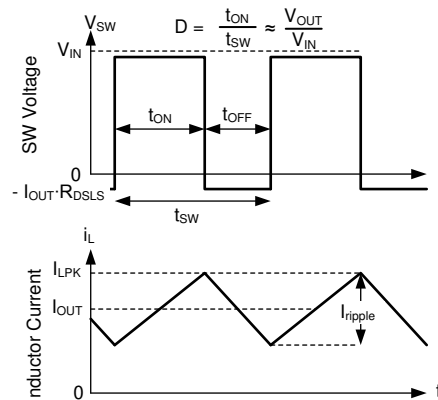

Figure 7-20. SW Voltage and Inductor Current Waveforms in Continuous Conduction Mode (CCM)
The following operating description of the LM614xxT-Q1 refers to Section 7.2 and the waveforms in Figure 7-20. Both supply a regulated output voltage by turning on the internal high-side (HS) and low-side (LS) NMOS switches with varying duty cycle (D). During the HS switch on-time, the SW terminal voltage, V_{SW} , swings up to approximately V_{IN} , and the inductor current, i_L , increases with a linear slope. The HS switch is turned off by the control logic. During the HS switch off-time, t_{OFF} , the LS switch is turned on. Inductor current discharges through the LS switch, forcing V_{SW} to swing below ground by the voltage drop across the LS switch. The regulator loop adjusts the duty cycle to maintain a constant output voltage. D is defined by the on-time of the HS switch over the switching period: $D = T_{ON} / (T_{ON} + T_{OFF})$.